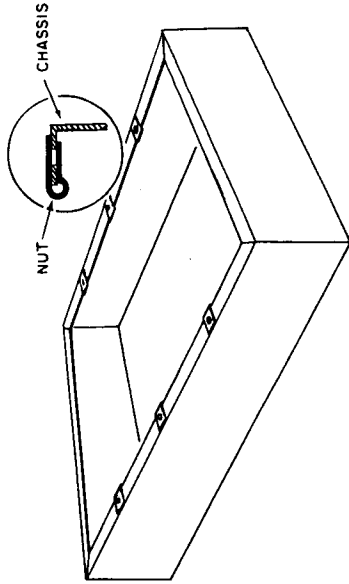

Figure 7. Location of Bottom Plate Speed Nuts
- () 4. Press a No. 8 tinnerman speed nut in place over each hole on the bottom flange of the chassis. (See Figure 7).